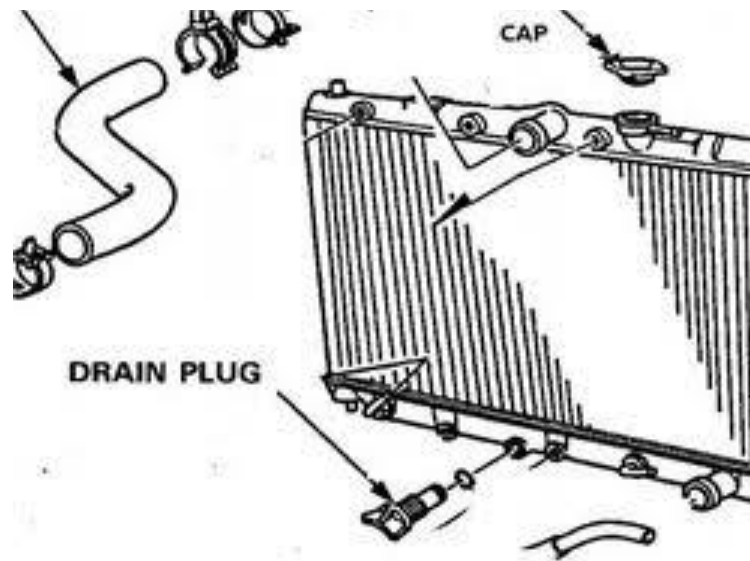

Fig. 7
- Unscrew the radiator drain plug (Fig. 7).